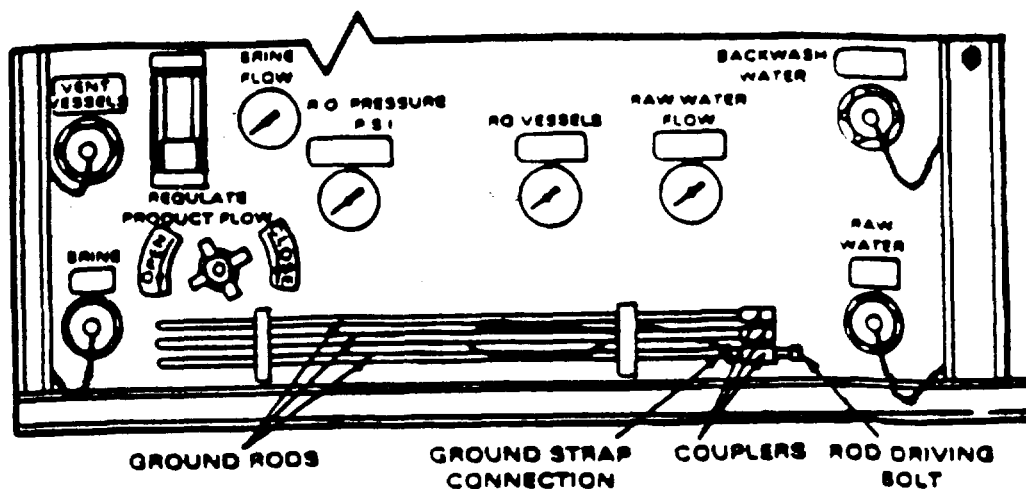

Figure 2-34. Ground Rod In Stowed Position
s. Hook up waste water and vent vessels systems (fig. 2-34). Start at ROWPU with hose going down and away from the ROWPU, ending well downstream of raw water intake.